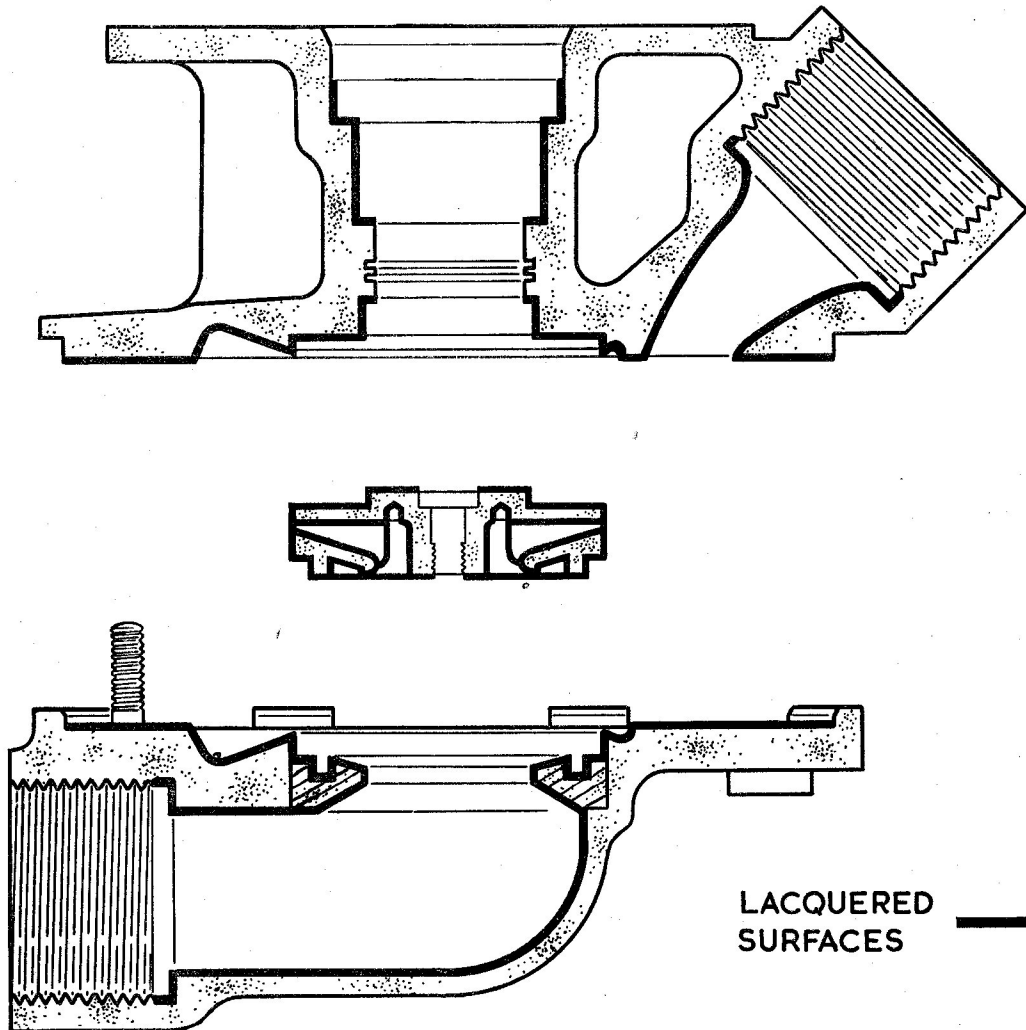

Fig. 2. Details of lacquered surfaces
14. This instruction applies to the internal surfaces of the pump body and base casting normally in contact with water-glycol and all surfaces of the impeller except the bore. Refer to Fig. 2.